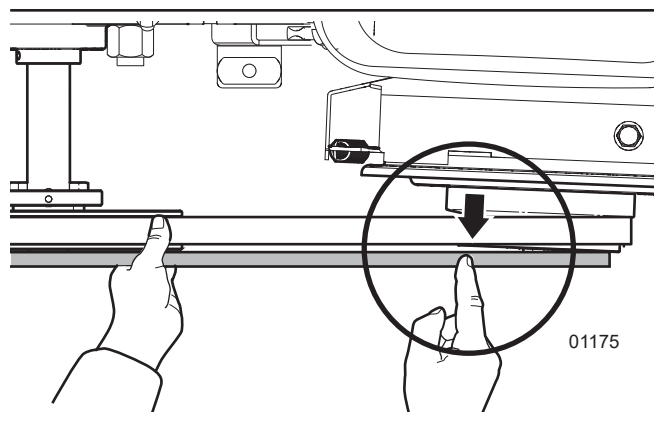

Figure 28—Align the engine clutch
- If the edge of the engine clutch flywheel is not parallel (is on an angle) to the straight-edge tool, align the engine clutch. See *Figure 28 on page 45*.